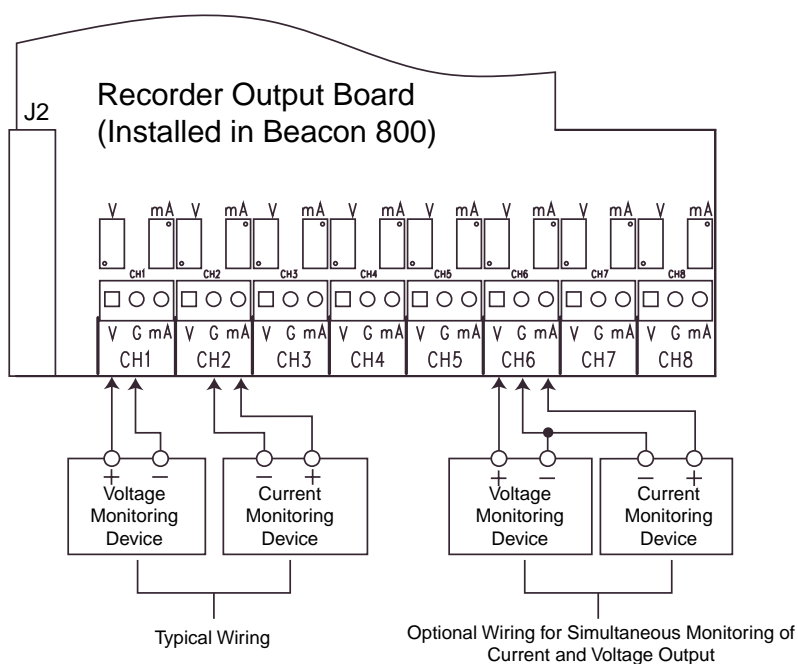

Figure 14: Recorder Output Board Wiring
5. Connect the wires to the recorder output board as illustrated in Figure 14. See the monitoring device's instruction manual for connections at the monitoring device.